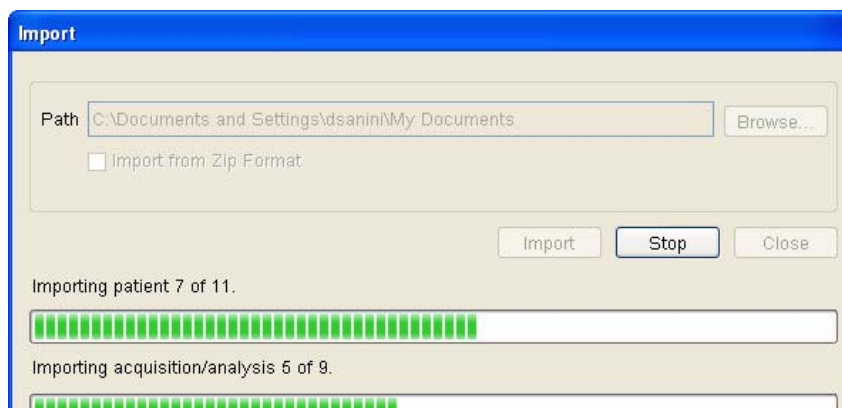

Figure 11-3 Import Progress Dialog
8. A progress dialog appears (Figure 11-3) and importation begins.